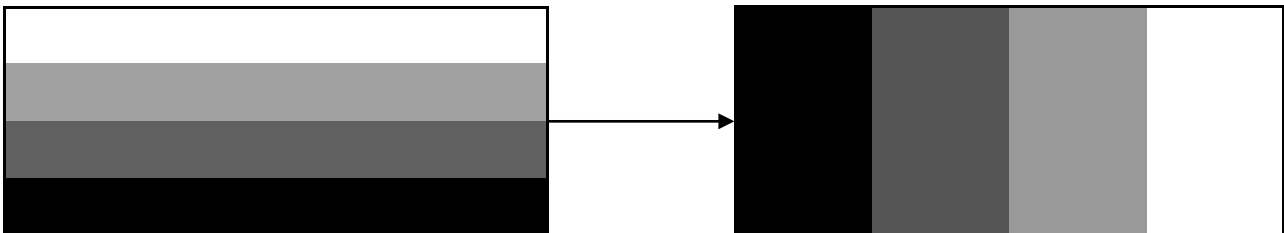

Figure 10-2 The typical power consumption measure pattern
- Notes: 1. The typical power is measured with following transition:from horizontal 4 gray scale pattern to vertical 4 gray scale pattern. (Figure 10-2)